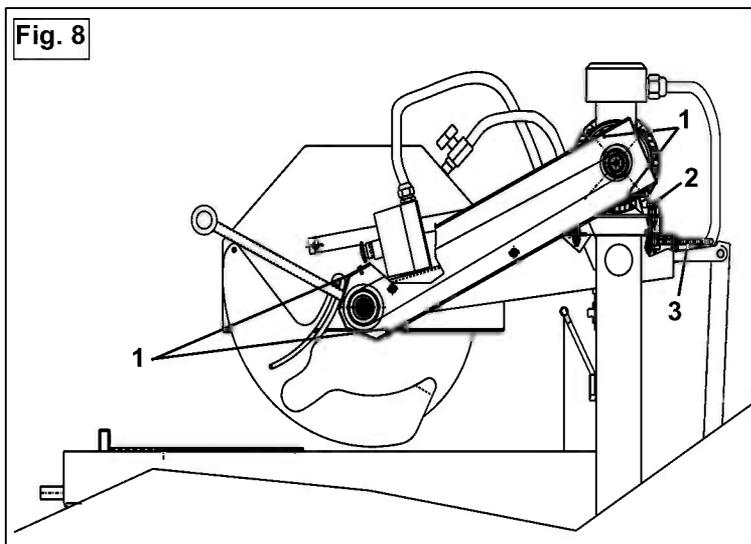

Fig. 8
17.7 TENSIONING THE DRIVE BELT (fig. 8)
- Unscrew the 4 screws that secure the movable belt guard (ref. 1).
- Loosen the 4 (ref. 2) screws that clamp the electric motor to the blade support.